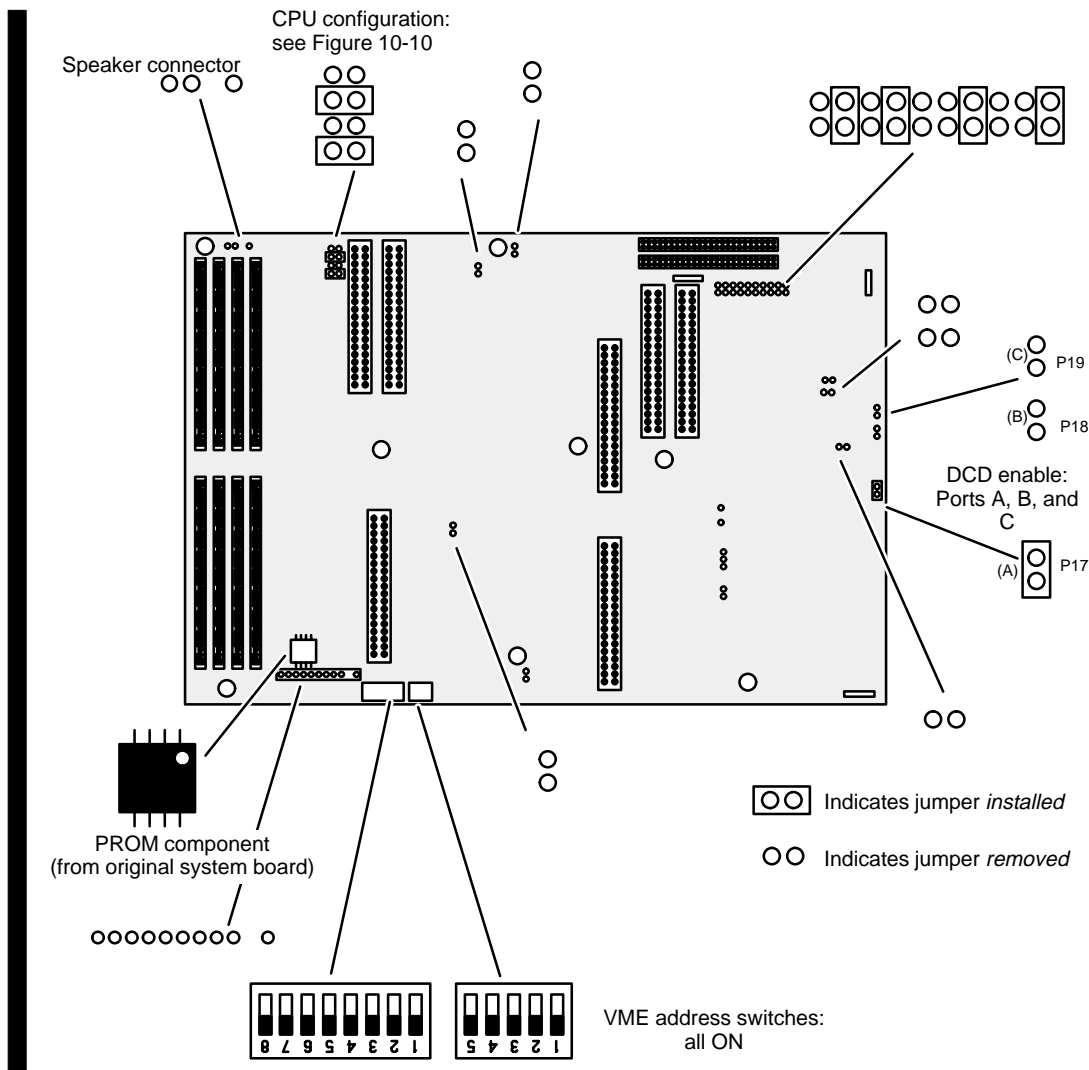

Figure 10-11 AViiON 530 and 4600 Series System Board
- Verify that the switches and jumpers indicated in Figure 10-11 are set as shown.